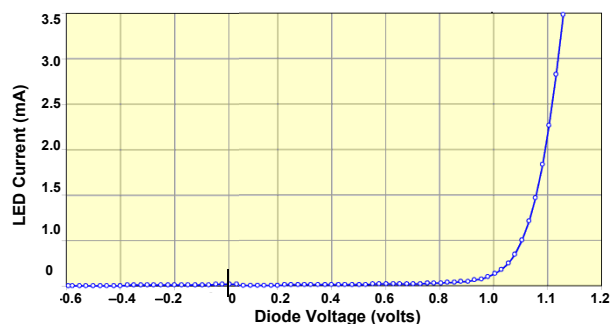

Figure 3: Example I-V Curve for an LED ³
- f) Plot the results of your experiment with a computer. The graph will have volts on the horizontal axis and current on the vertical axis. See **figure 3** for an example plot. **Figure 3** is not the proper curve for a red LED but the shape is similar. You can use any program you want. Excel, Sheets, R, and MATLAB are some that come to mind. It isn't necessary to print the plot, you can save it electronically. Be sure to show it to the teaching assistant since it is part of your results.